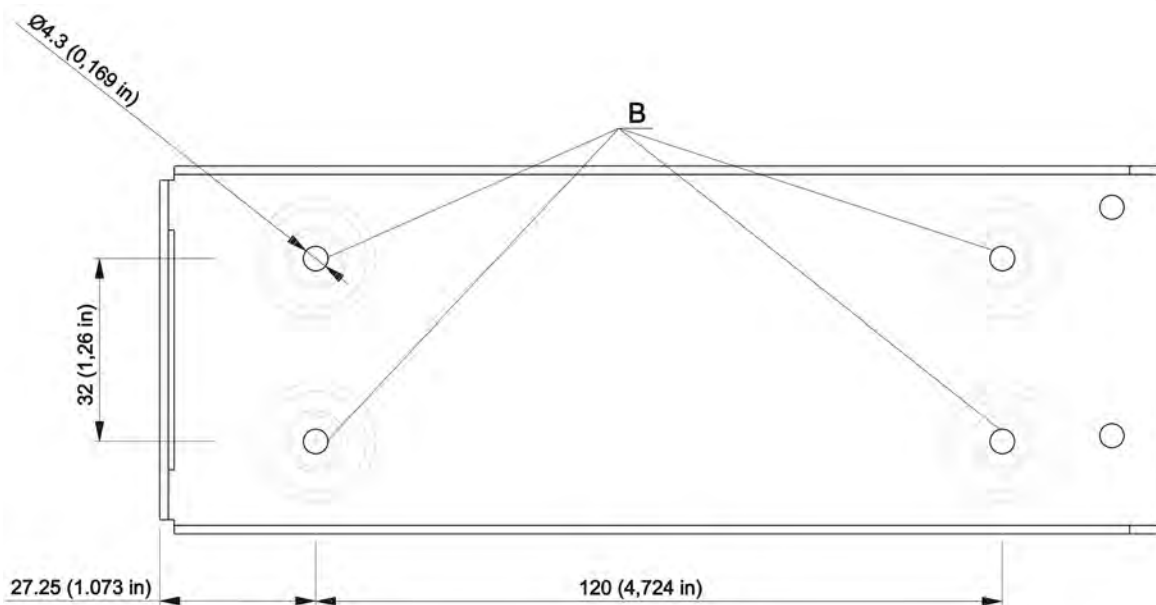

Figure 2-12: MK6201-(010) mounting slot fixing holes
The necessary dimensions for installation using the mounting kit MK6201-(010) are given in Figure 2-12 (dedicated holes marked with "B" letter).